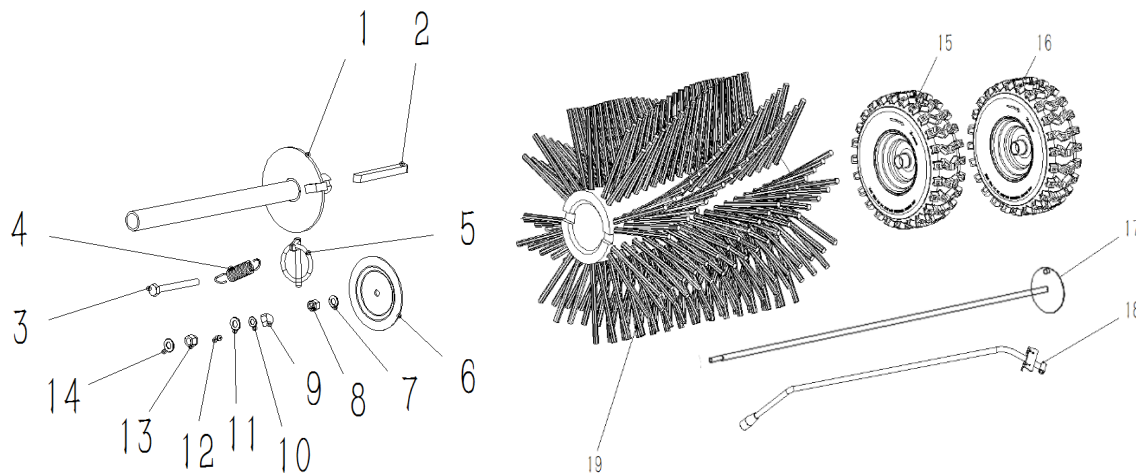

Figure 1
2.1. Unpack the package and check against the assembly diagram. In case of any missing, contact the dealer for makeup (see Figure 1).